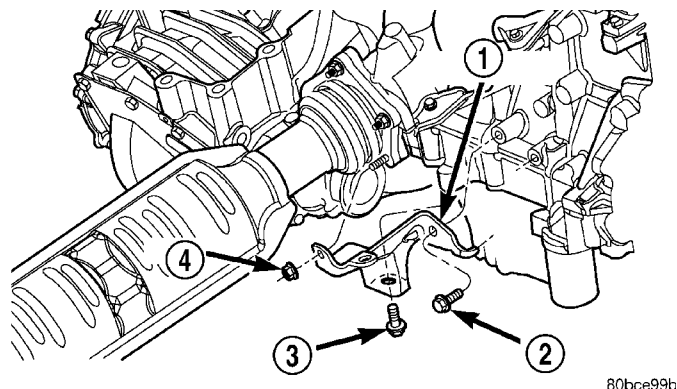
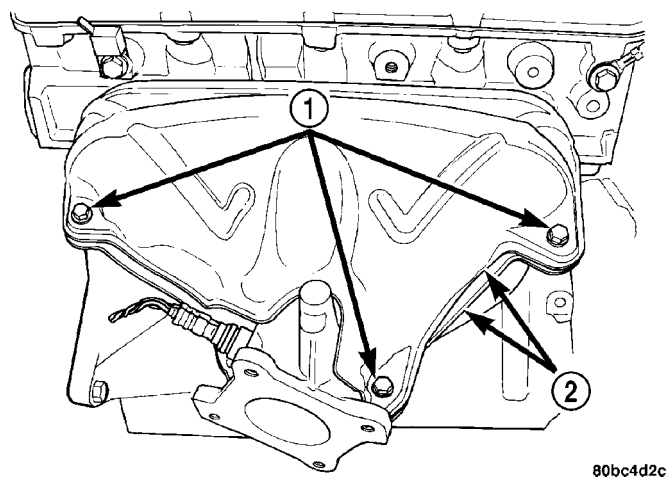

Fig. 143 Exhaust Manifold Support Bracket
Fig. 144 Exhaust Manifold Heat Shields
- (4) Remove exhaust manifold support bracket (Fig. 143).
- (5) Remove fasteners attaching exhaust system flex joint to exhaust manifold flange. Move exhaust system rearward to clear flange studs.
- (6) Lower vehicle.
(7) Disconnect make-up air hose from rear of cylinder head cover.
(8) Disconnect oxygen sensor connector and harness clip.
(9) Remove heat shield attaching bolts (Fig. 144).
- (3) Position lower and upper heat shield on exhaust manifold. Install heat shield bolts and tighten to 11 N·m (95 in. lbs.) (Fig. 144).
- (4) Connect oxygen sensor electrical connector and harness clip.
- (5) Connect make-up air hose on cylinder head cover port.
- (6) Raise vehicle.
(7) Install new flex joint to manifold flange gasket.
(8) Attach exhaust system to manifold flange and tighten fasteners to 28 N·m (250 in. lbs.).
- (9) Install exhaust manifold support bracket and tighten fasteners (Fig. 143).